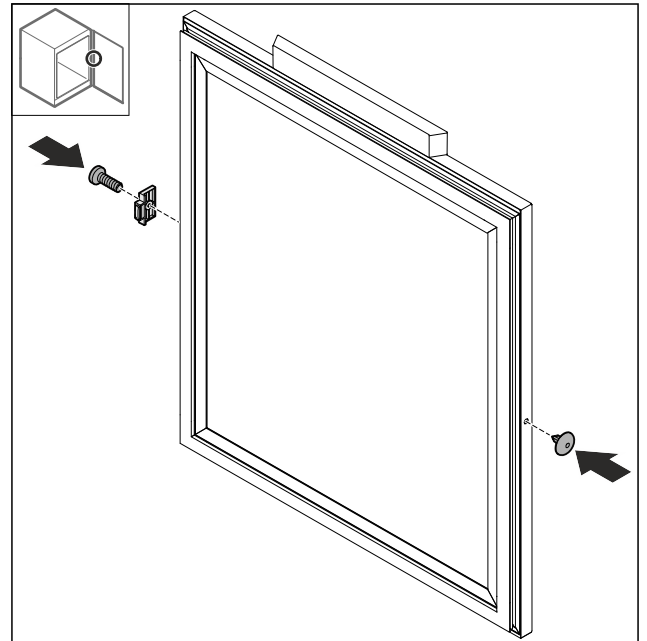

Fig. 48
- Turn the door stopper Fig. 48 (1) 180° and fit it on the opposite side.
- Insert the cover Fig. 48 (2) on the opposite side.